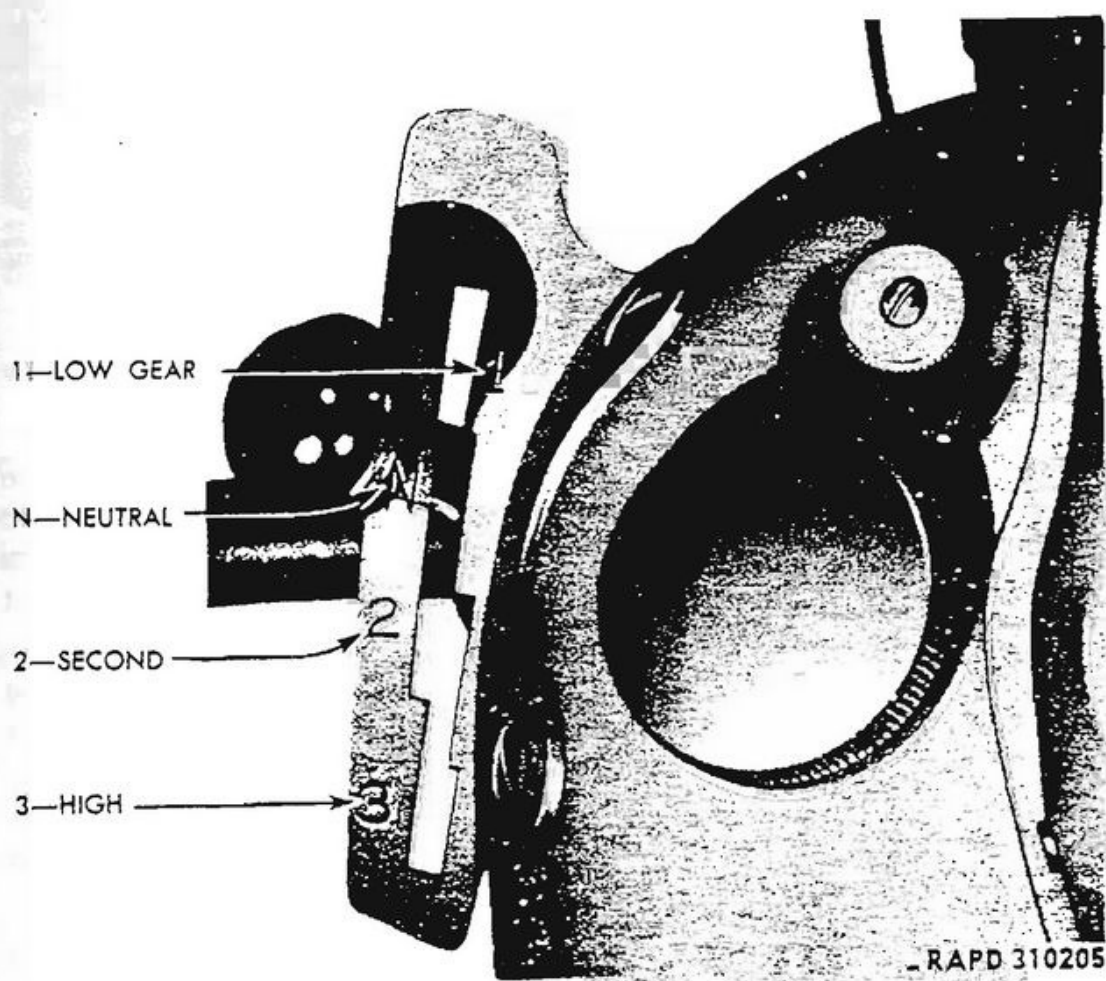

Figure 8—Gear Shifter Lever Positions
h. **Gear Shifter (fig. 8).** Shifter lever is located on left tank, forward position, and operates within a guide. Shifter lever guide is notched for positive location of gears and each position is identified, front to rear: "1"—low gear; "N"—neutral; "2"—second gear; "3"—direct high gear.
(1) Place gear shifter lever in "N" (neutral) position (fig. 8).